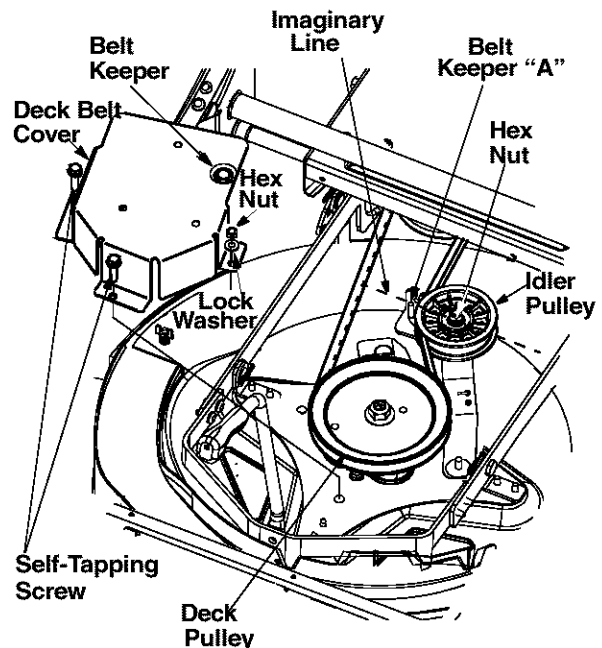

Figure 15
- Using a 1/2" socket wrench, remove two self-tapping screws, lock washer and hex nut that hold the deck belt cover to the deck. See Figure 15. For this, you will have to work from the top left side of the riding mower. Remove the belt cover.
- Using a 9/16" wrench, loosen the hex nut on the idler pulley. See Figure 15.
- Place the new belt around the deck pulley and the engine pulley making sure that the belt is routed inside the belt keepers. There are two belt keepers under the grass catcher, one on the idler and the other under the deck belt cover. See Figure 15.
NOTE: An imaginary line between the belt keeper and idler pulley should be parallel to frame. See Figure 15.